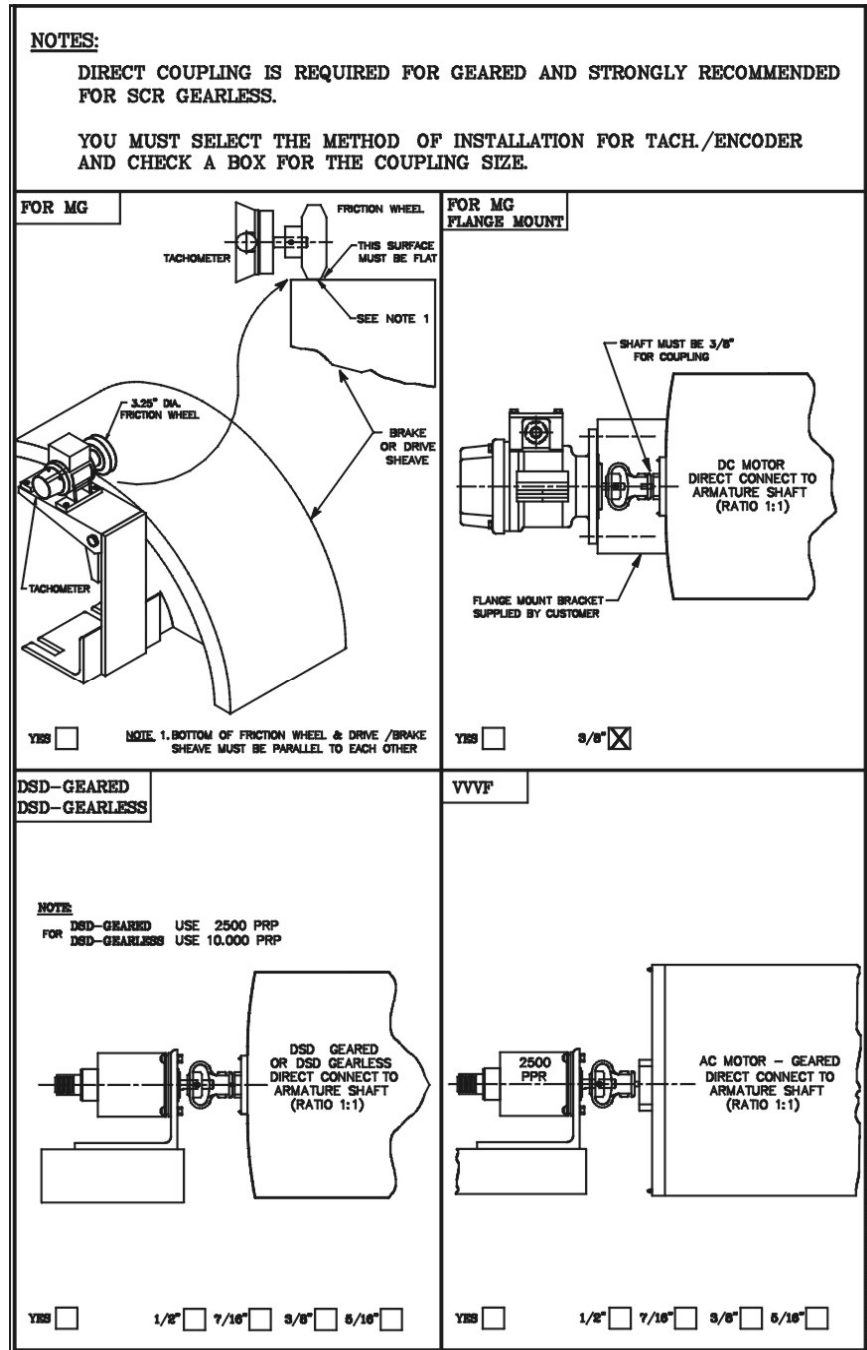

Figure 1-2
**Motor Encoder.** Direct Coupling is required on all geared machines and is strongly recommended for Gearless machines. [See Figure 1-2.]